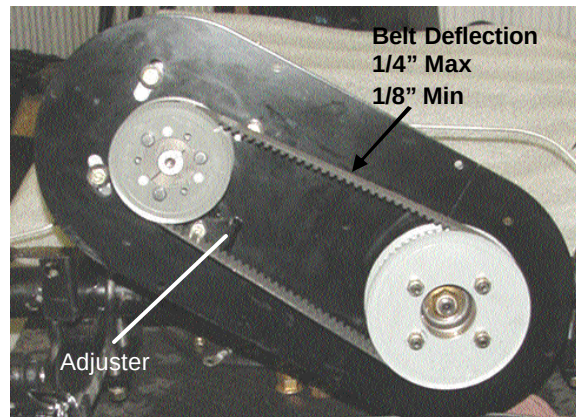

Figure 6 – Belt Tension
- 2) Loosen the 4 motor mounting bolts slightly (see Figure 6)
- 3) Rotate adjuster cam counterclockwise until belt is correctly tensioned (see Figure 6). The belt should deflect 1/8" to 1/4" when pressed down at the middle of the span (see Figure 6).